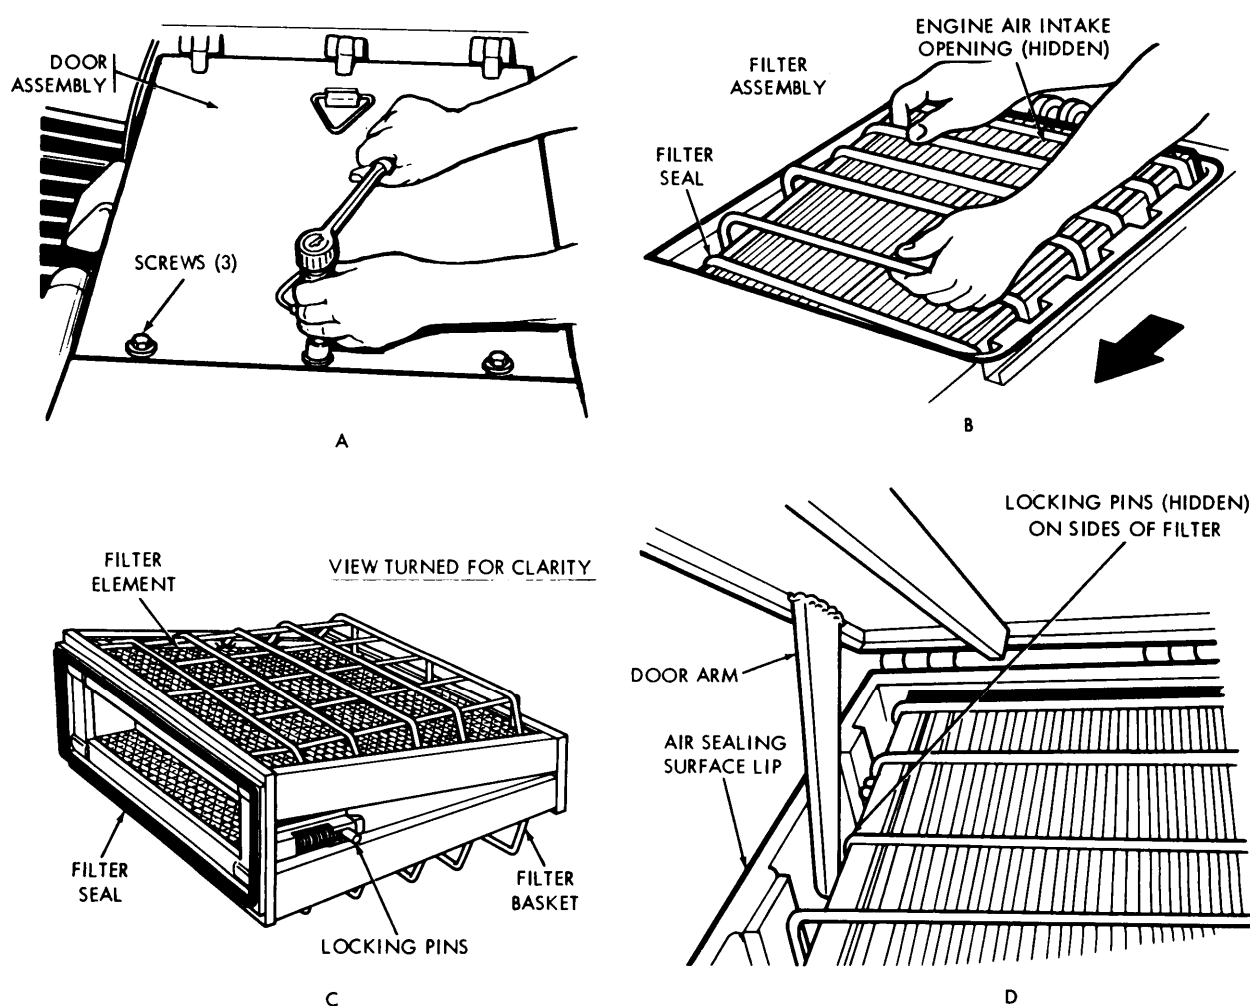

Figure 6-12. Air cleaner filter element replacement and inspection.
#### b. *Removal (Fig. 6-12).*
#### c. *Inspection and Cleaning (Fig. 6-12, View C).*
- (3) *Emergency cleaning.* If necessary to clean filter element and neither compressor not washing facilities are available, filter can be partially cleaned by gently tapping it with the palm of hand. Care must be taken to avoid damage to filter element. Banging, hitting, or tapping may cause deformation and permanent damage to filter element.
- (4) Inspection. Inspect filter element carefully for damage after cleaning. Check for rupture in filter material or damage to seal. To detect filter material rupture, place a light inside filter element and inspect from outside. If ruptured, replace with new filter element.
d. Installation (Fig. 6-12).